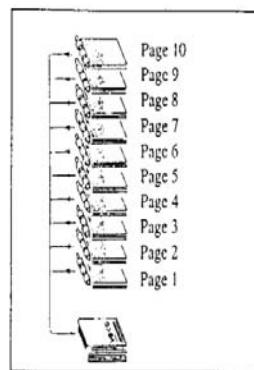

Figure 7
(1) Load paper onto the paper feed table with the printed side of paper facing downward (see Figure 7)